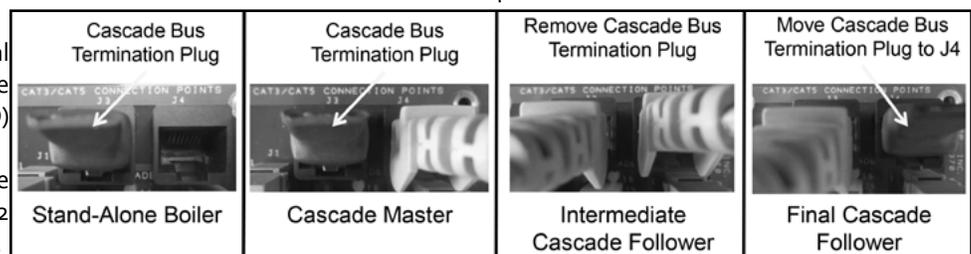

Figure 23 - Cascade Termination Plug Detail
1. A Cascade Bus Termination Plug has been installed on the customer connection board of this boiler. The purpose of this plug is to stabilize communication between multiple boilers and reduce electrical “noise”. See Figures 23 and 24 for Cascade Bus Termination Plug installation detail.